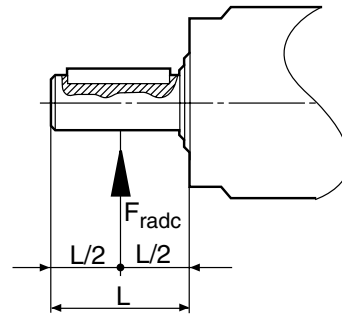

Fig. 4: Force applied at centre of shaft
- b. The force is applied at a distance x , as in figure 4. This value can be calculated as follows: